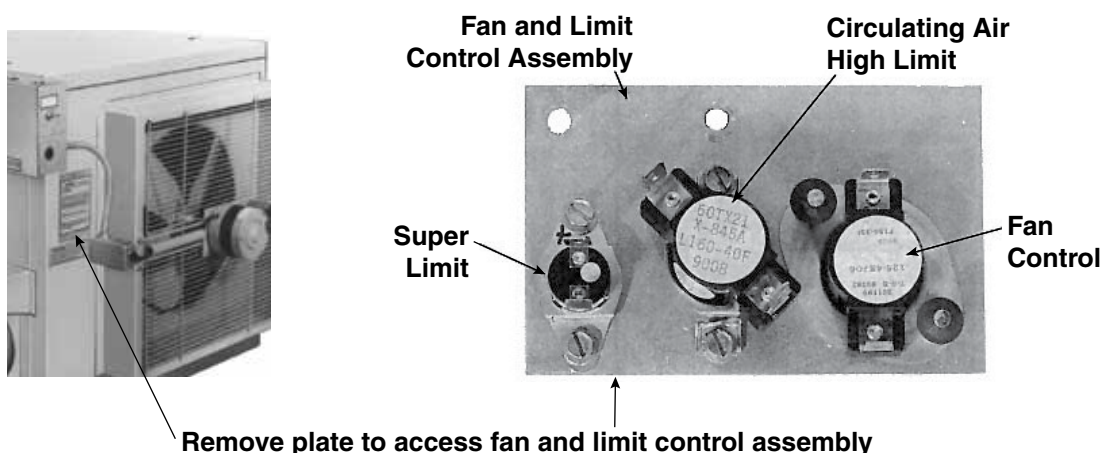

Figure 16. Access and Identification of Fan and Limit Controls
- To access the fan and limit control assembly, remove the plate shown in Figure 16.